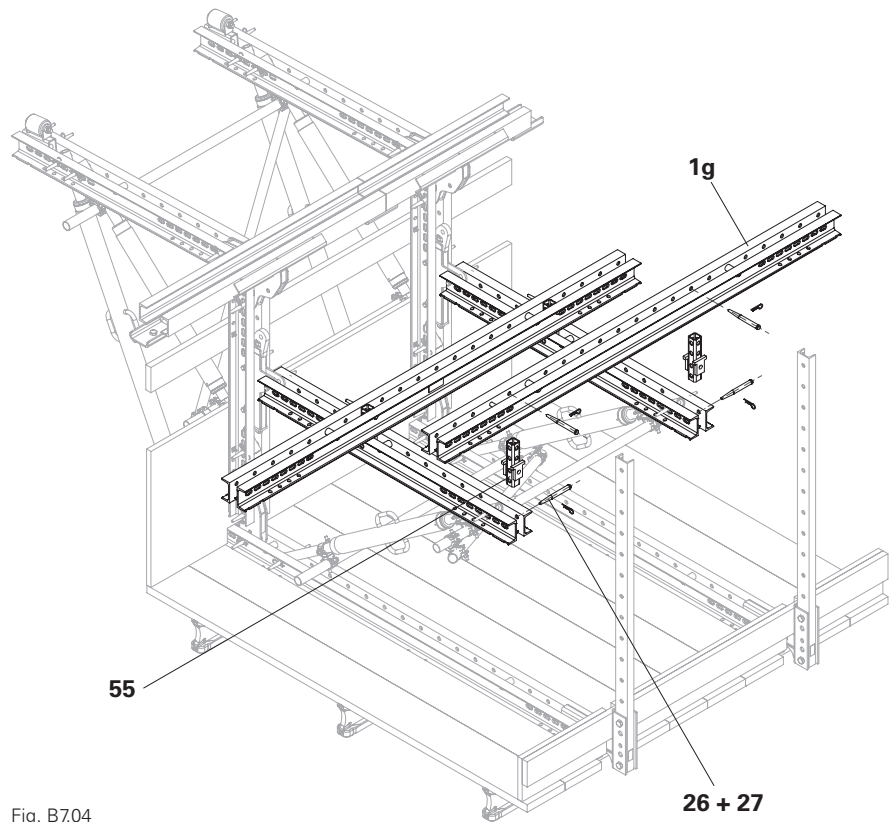

Fig. B7.04
1. Mount 4x Cross Connectors VARIOKIT (55) using 1x fitting pin \varnothing 21 x 120 (26) respectively in the Steel Waler Universal SRU U120 of the platform support and secure with cotter pins 4/1 (27).
2. Mount 2x Steel Waler Universal SRU U120 (1g) with 1x fitting pin \varnothing 21 x 120 (26) respectively per Cross Connector VARIOKIT (55) and secure with cotter pins 4/1 (27).
- (Fig. B7.04)